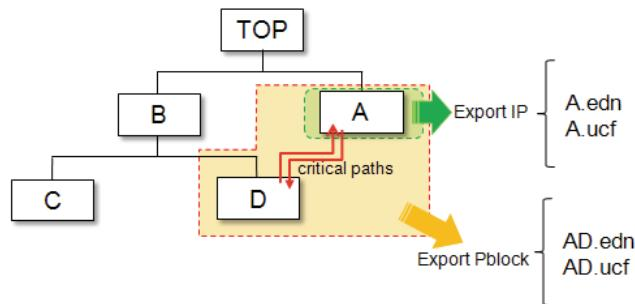

Figure 10-23: Example of Export Pblock and Export IP
**Figure 10-23** shows an example of how Export Pblock and Export IP can be used to export different parts of the design, based on either logical (Export IP) or physical (Export Pblock) hierarchy: